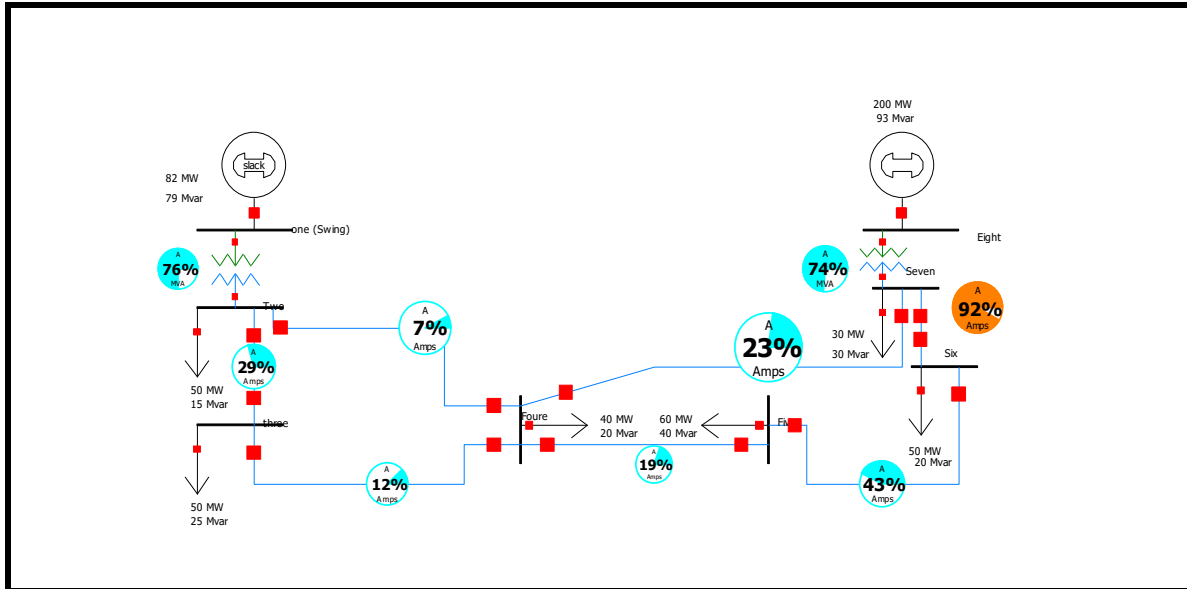

Figure 1: The system Block
1) The system was built at PWS as the specific data, the system show in the Figure 1 bellow: